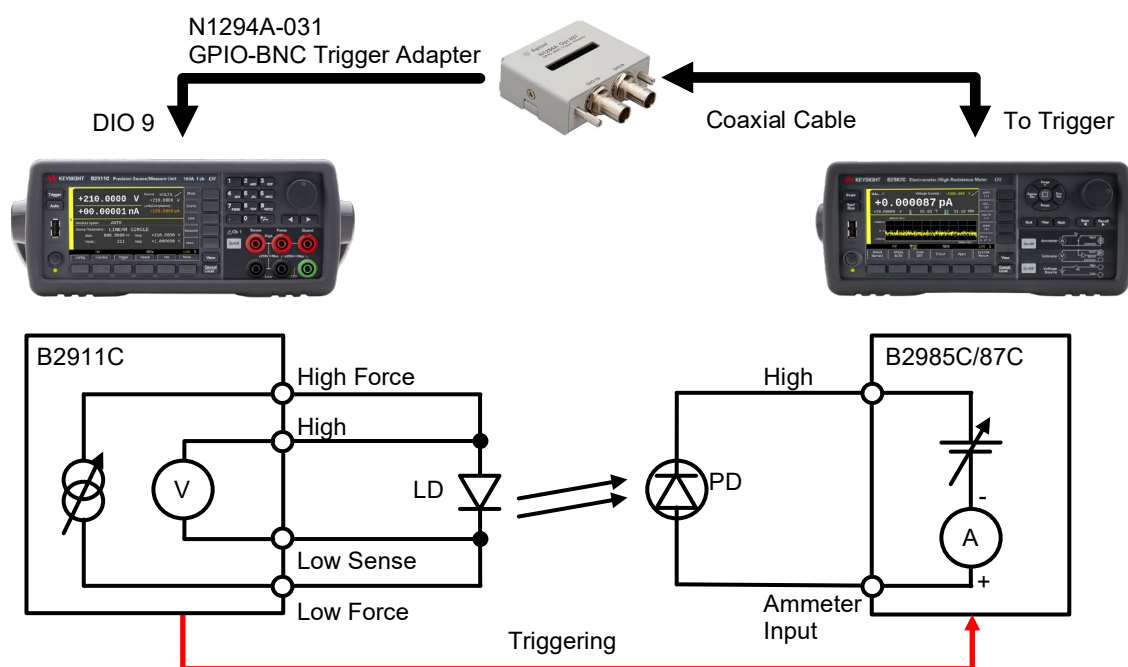

Figure 4. System configuration to evaluate the L-I-V Characteristics of a laser diode
Figure 4 shows an example of a system diagram that evaluates the L-I-V characteristics of an LD using the B2900 Precision Instrument Family. The Keysight B2911C Precision Source / Measure Unit (SMU) is used to apply drive current to the LD and to measure the LD's voltage. The B2911C can cover currents from 10 fA to 3 A (DC) / 10.5 A (pulsed) and voltages from 100 nV to 210 V. The SMU can source and measure both positive and negative voltages and currents to easily characterize the LD's DC parameters. Since the currents supplied to the LD can be large, a 4-wire connection (remote sensing) configuration is commonly used.